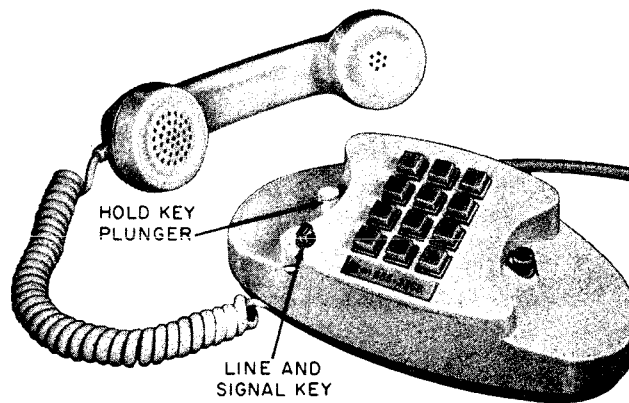

Fig. 3 — 2712B or 2713B Telephone Set
- **Line and signal key:** 2712B and 2713B sets — permits line selection by turning, signaling by depressing (Fig. 3 and 6).
- **Hold key plunger:** 2712B set — provides for mechanical hold on one CO line; 2713B set — provides for mechanical hold on either nonselected CO line (Fig. 3).